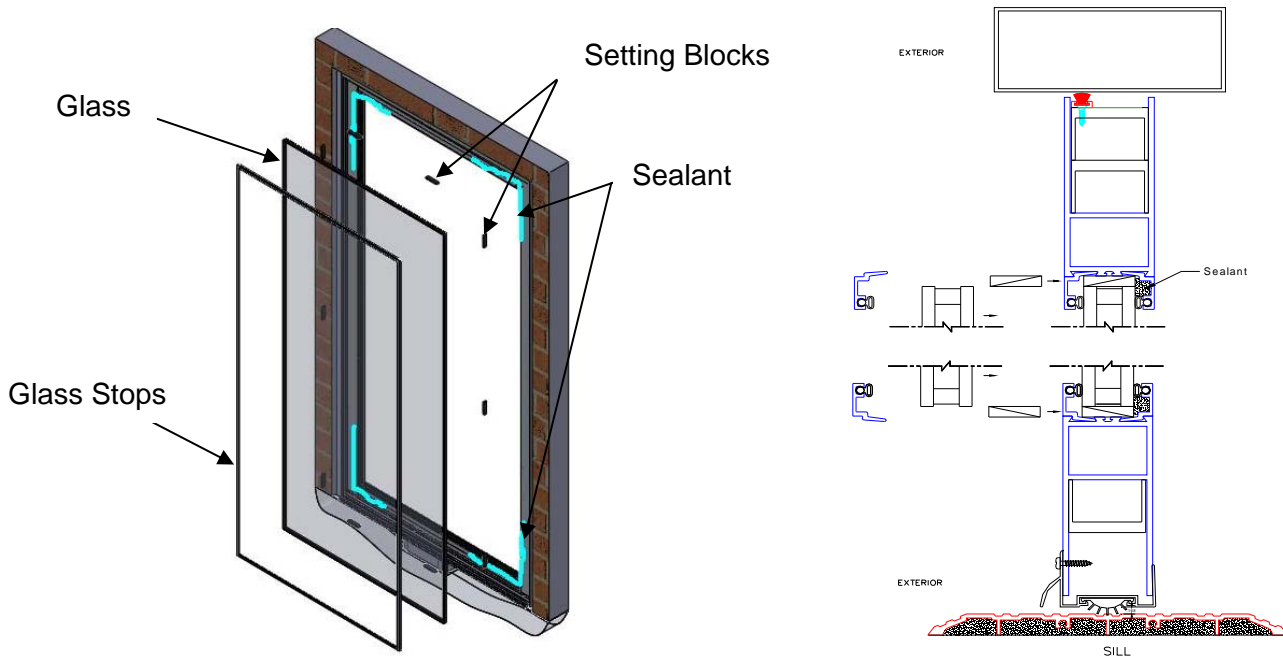

Figure 10:
- b. Insert two setting blocks into the head / bottom at the quarter points (Figure 10).
- d. Before glazing, apply a continuous bead of sealant to the inner stops as shown in Figure 10.